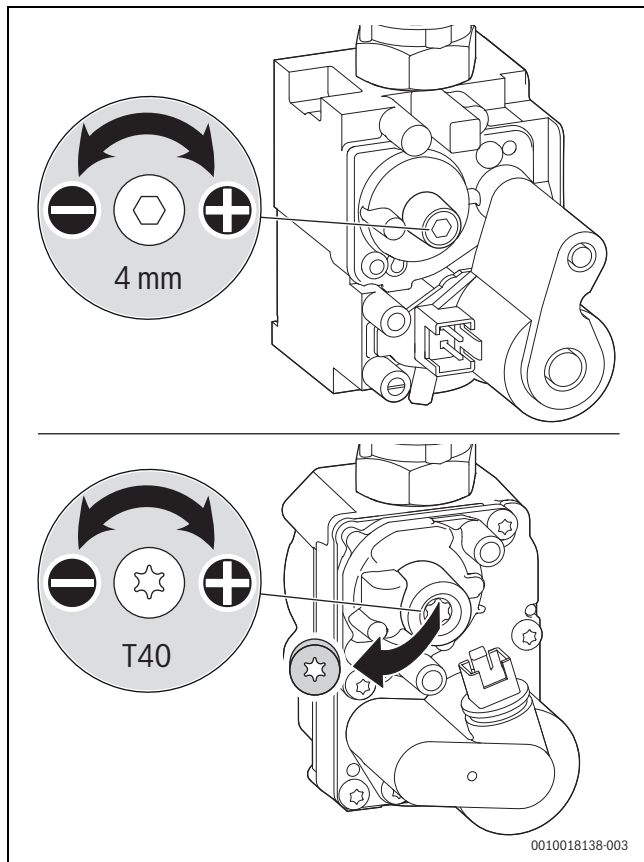

Fig. 40 Set the CO₂- or O₂ content
- ▶ Remove the seal from the adjusting screw of the air/gas ratio control valve (only on the air/gas ratio control valve shown in the below Fig. 40) and set the CO₂ or O₂ content for minimum rated output.